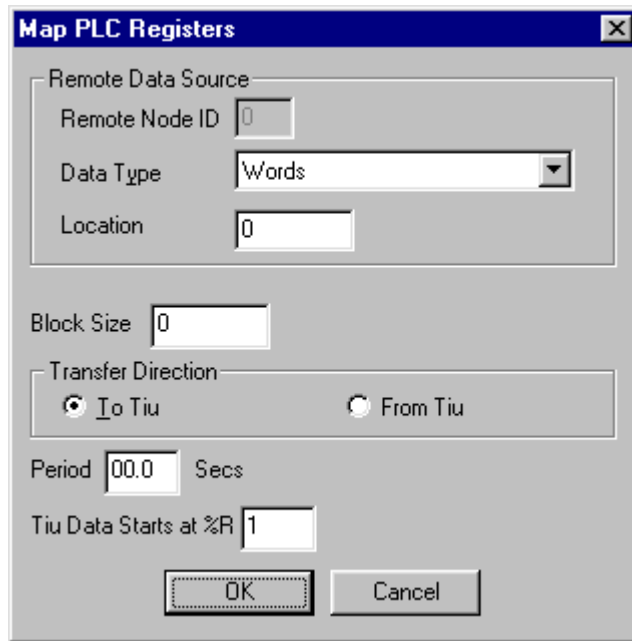

Figure 15.9 – Mapping PLC Registers and Local
2. Click on the **Add** button to add a Map Register Statement. Figure 15.9 illustrates the how the registers are mapped.